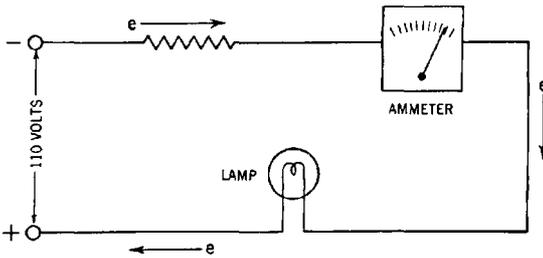

Fig. 30-11. The series circuit. Electrons can follow only one path from negative to positive.
**Series Circuits.** In the *series circuit*, the electrons can follow only one path, from the negative to positive (Fig. 30-11). The electromotive force (110 volts) forces the electrons through this circuit. Since there is only one path, the number of electrons per second (which determine the number of amperes) in each part of the circuit is the same.